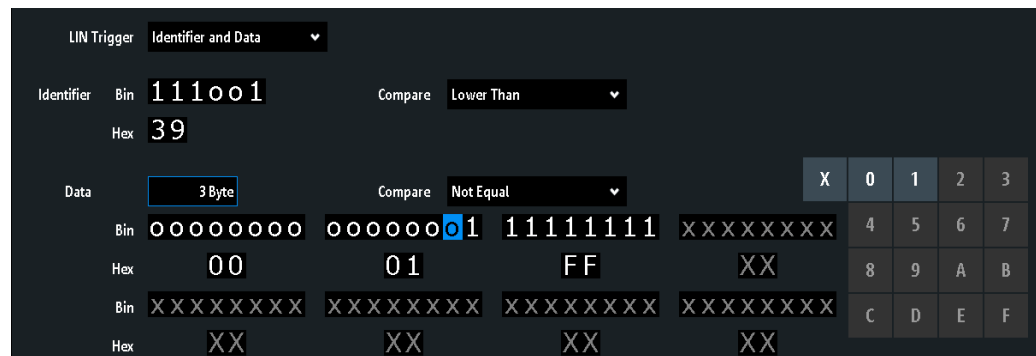

Figure 12-32: Trigger setup to trigger on identifier and data patterns
- "Identifier and Data" Triggers on a combination of identifier and data condition. The instrument triggers at the end of the last byte of the specified data pattern. An example is shown in Figure 12-32. See "Identifier condition" on page 299 and "Data condition" on page 300.